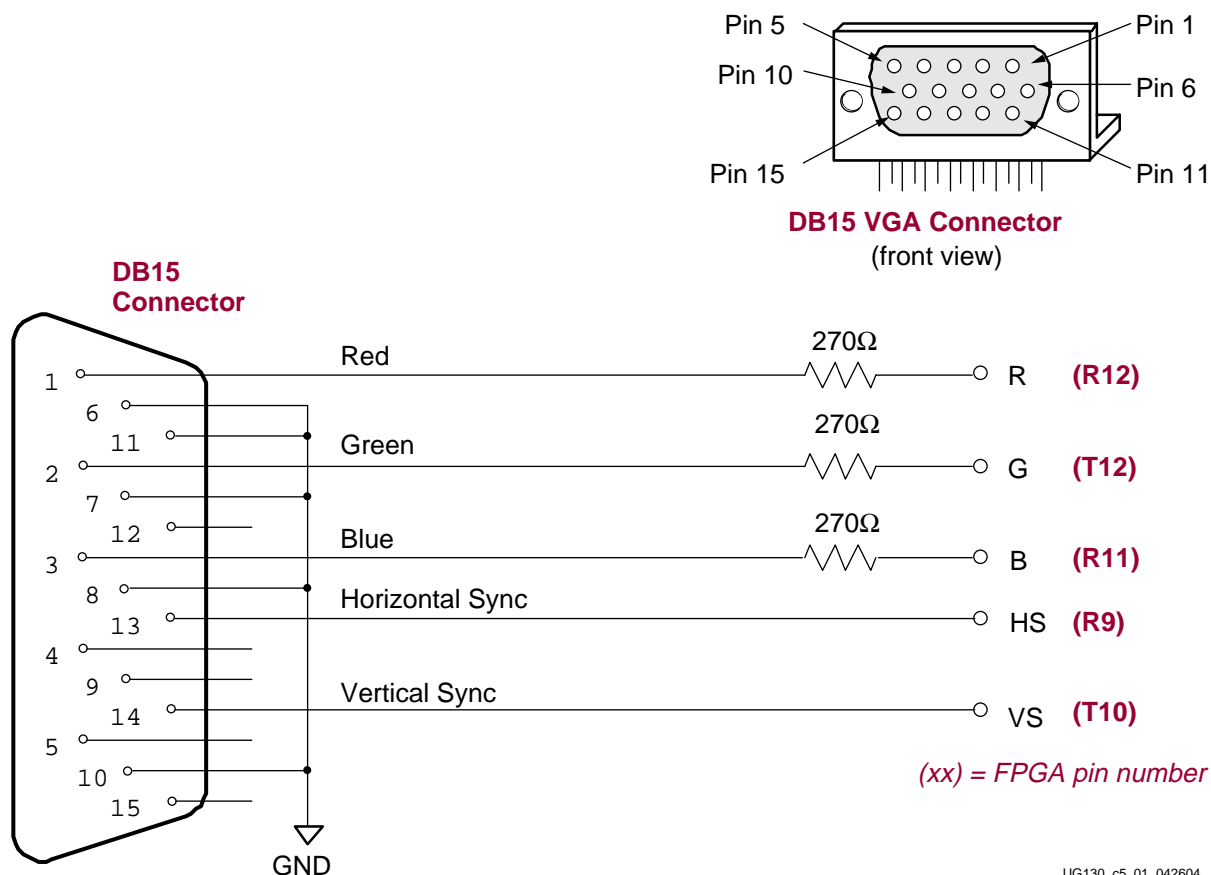

Figure 5-1: VGA Connections from Spartan-3 Starter Kit Board
As shown in Figure 5-1, the Spartan-3 FPGA controls five VGA signals: Red (R), Green (G), Blue (B), Horizontal Sync (HS), and Vertical Sync (VS), all available on the VGA connector. The FPGA pins that drive the VGA port appear in Table 5-1. A detailed schematic is in Figure A-7.